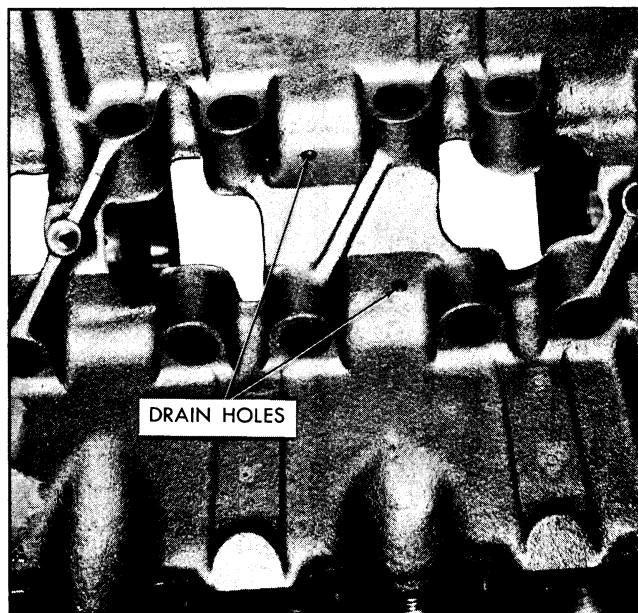

Fig. 6-78 Drain Holes in Lifter Gallery
h. Use wire to check two drain holes in lifter gallery (Fig. 6-78).